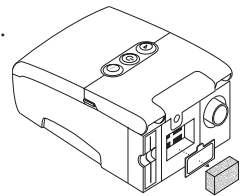

FIGURE 7-1 REMOVING THE FILTERS
2. Remove the filter(s) from the enclosure by gently squeezing the filter in the center and pulling it away from the device, as shown in Figure 7-1.